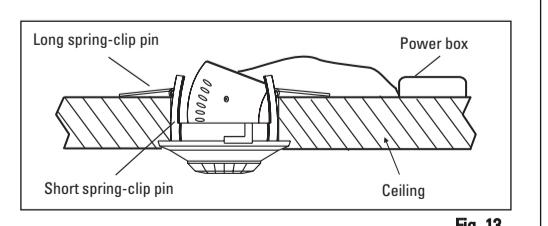

Fig. 3
- No direct heat source in detection area (Fig.3)